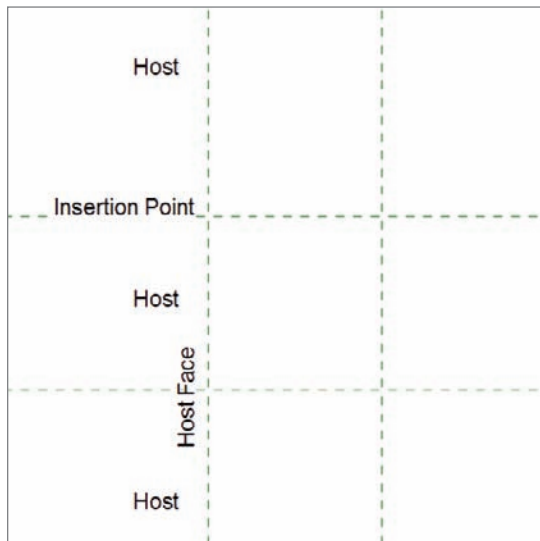

FIGURE 17.3 Adding a second horizontal reference plane downward
5. With the Reference Plane command still running, pick the horizontal reference plane and offset it down using the same offset increment of 1'-0". Your family should now resemble Figure 17.3.